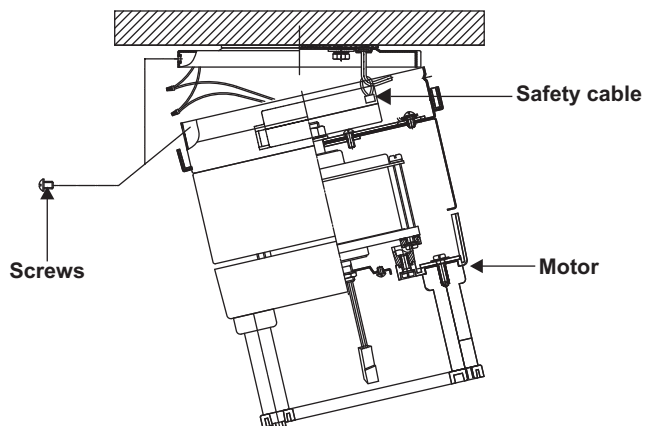

Figure 10
1. Move fan motor into position over the four mounting holes and secure with the four screws provided. The safety support is provided to prevent the fan from falling. Secure the safety cable securely onto the hook. (Fig. 10)